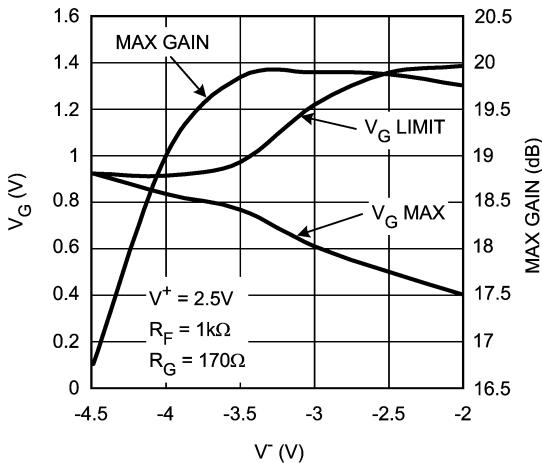

FIGURE 9. V_{G_MAX} , V_{G_LIMIT} , & Max-gain vs. V^- ($V^+ = 2.5V$)
a) V_G range constricts. Referring to *Figure 9*, note that V_{G_MAX} (V_G voltage required to get maximum gain) is $0.5V$ ($V_S = \pm 2.5V$) compared to $1.0V$ for $V_S = \pm 5V$. At the same time, gain cut-off (V_{G_MIN}) would shift to $-0.5V$ from $-1V$ with $V_S = \pm 5V$.
b) V_{G_LIMIT} (maximum permissible voltage on V_G) is reduced. This is due to limitations within the device arising from transistor headroom. Beyond this limit, device performance will be affected (non-destructive). Referring to *Figure 9*, note that with $V^+ = 2.5V$, and $V^- = -4V$, V_{G_LIMIT} is approaching V_{G_MAX} and already "Max gain" is reduced by 1dB. This means that operating under these conditions has reduced the maximum permissible voltage on V_G to a level below what is needed to get Max gain. If supply voltages are asymmetrical, reference *Figure 9* and
c) "Max_gain" reduces. There is an intrinsic reduction in max gain when the total supply voltage is reduced (see Typical Performance Characteristics plots for Gain vs. V_G ($V_S = \pm 2.5V$)). In addition, there is the more drastic mechanism described in "b" above and shown in *Figure 9*.